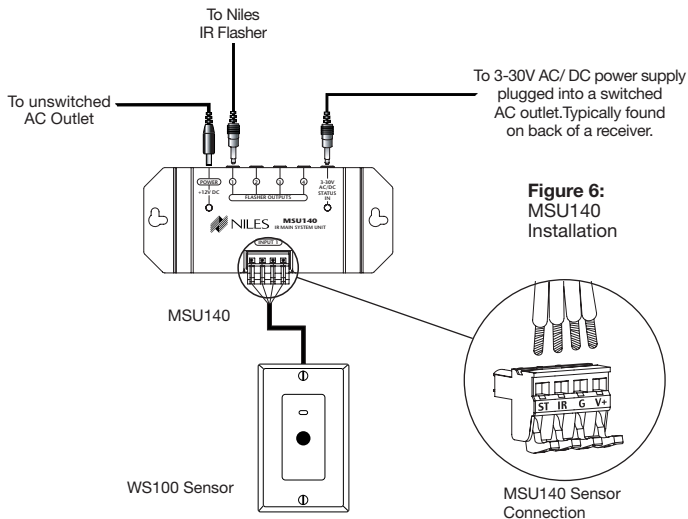

Figure 6:
2. Connect the Sensor/Keypad cable the Sensor input.	<p>A) Strip 1/4" of insulation from the end of each wire. Tightly twist the end of each wire until no frayed ends remain.</p> <p>B) Use a small flathead screwdriver or your thumbnail to raise the locking tabs, exposing the holes on the removable connectors.</p> <p>C) Insert each wire into the appropriate hole on the removable connector plug (Figure 6), and snap the locking tab down. To help you, the connector plug is keyed. Insert the smooth side of the connector plug into the smooth side of the socket. Don't force the scalloped side of the connector plug into the smooth side of the socket.</p>